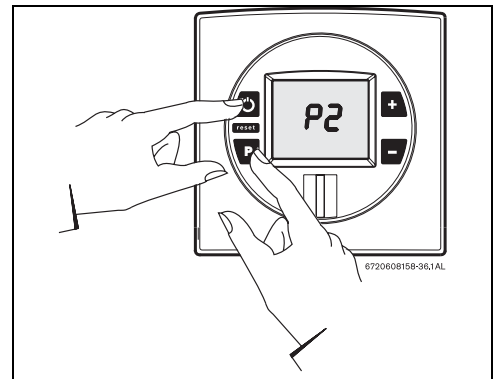

Fig. 54
- Press and hold "Program" button and press ON/OFF button to turn appliance ON (see Fig. 54).